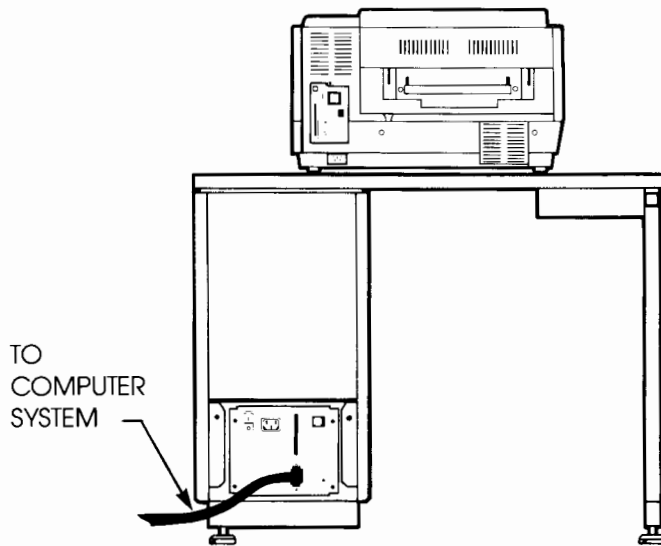
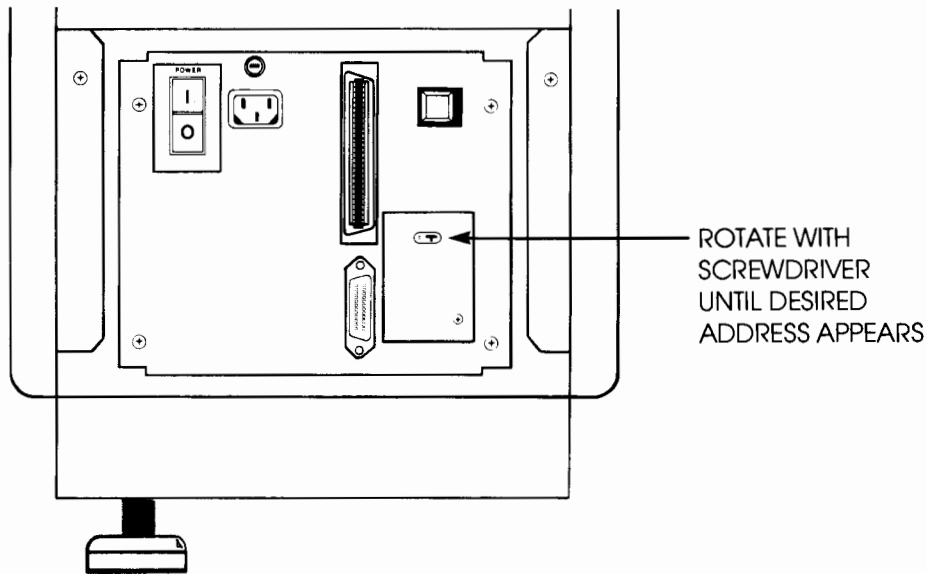

Figure 3-5. Connecting HP-IB Cable
Figure 3-13. Setting the HP-IB Address
- g. Switch the power ON/OFF switches on the back of the printer and the controller to the ON (I) position.
- i. Switch the controller's power ON/OFF switch to the OFF (0) position.
- j. Connect the HP-IB cable from the host system to the HP-IB connector on the controller's rear panel (see figure 3-5) and set the HP-IB address as explained at the end of this section (see figure 3-13).